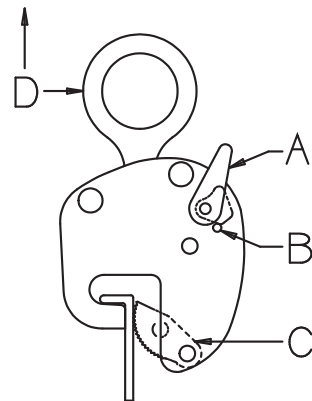

Figure 5: Locked Closed
5. Secure the clamp in the locked closed position. Do this by rotating the lock handle (A, Fig. 5) until the lock inside the body is positioned against the stop (B, Fig. 5). The gripping cam(s) (C, Fig. 5) will rotate into the jaw and engage the material. Ensure the clamp is fully engaged with the material.